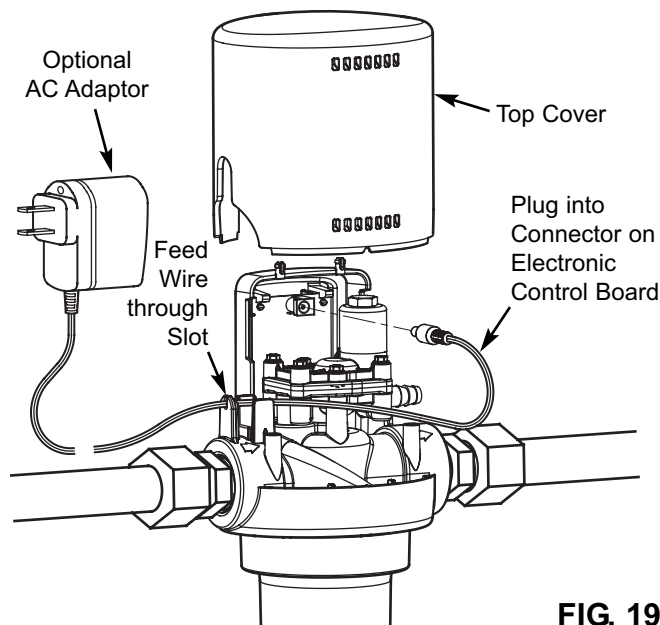

FIG. 19
An optional AC adaptor (P/N 7302835) is available to supply 9V DC power to the electronic control instead of using a 9V battery. This adaptor has 6 feet of wire. One end plugs into a household 120V AC, 60 Hz. outlet and the other end plugs into the back of the electronic control board, as shown in Figure 19. See the Repair Parts List page for ordering information.
1. Remove the top cover from the ASF by sliding it upward (See Figure 19).
3. Locate the small round plug on one end of the AC adaptor cable and insert this into the connector on back of the electronic control board (See Figure 19).
5. Before replacing the cover on the ASF, feed the wire through the small slot above the IN port of the ASF (See Figure 19).